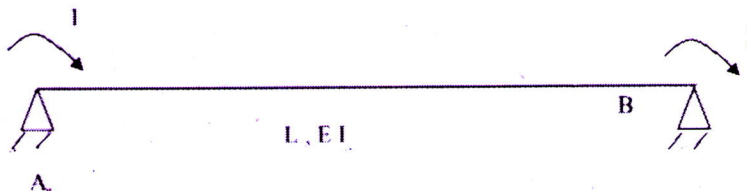

Figure.2
- 2 a) Derive the flexibility and stiffness matrix for the element shown in Figure 2 (6)